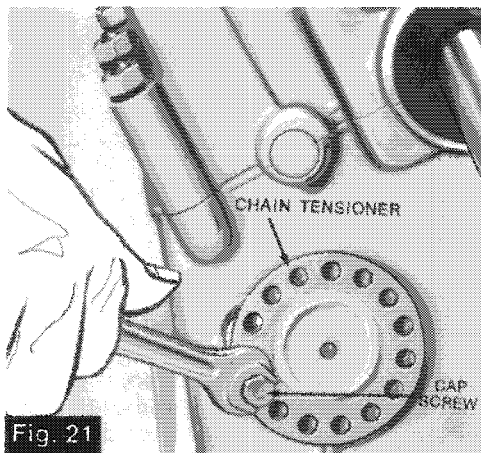

Fig. 21
1. Remove cap screw locking chain tensioner in place. (See Fig. 21). Chain tensioner is located at bottom left of gear box.